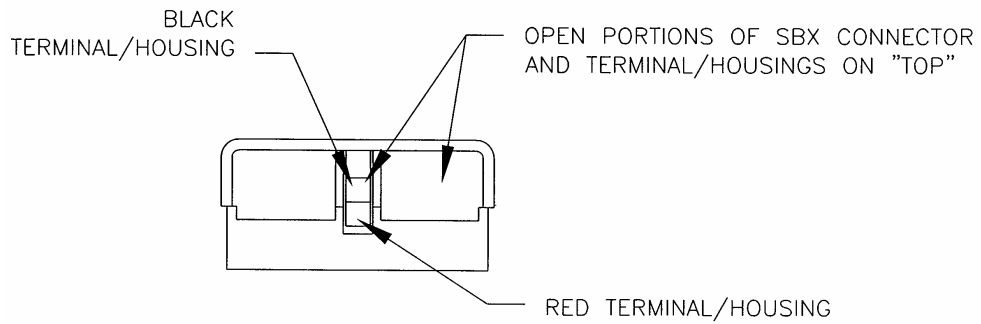

Fig. 5.4 Auxiliary Terminal/Housing Orientation
- Pull auxiliary lead back through SBX connector, ensuring black housing is toward top of connector (See Figure. 5.4). Either auxiliary wire harness may be connected to either of the two SBX connectors.